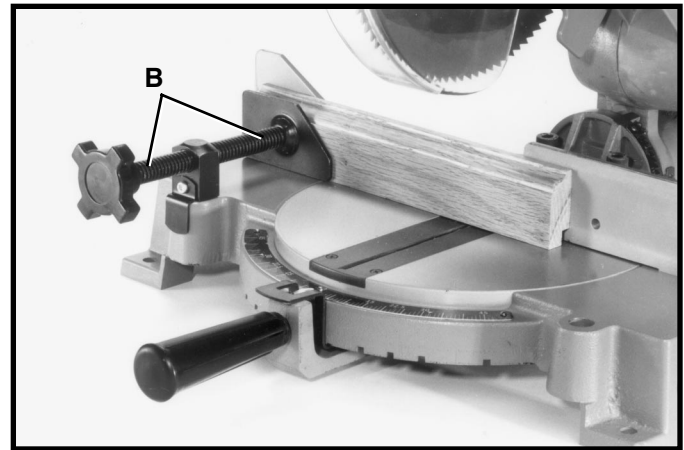

Fig. 34
9. Fig. 34, illustrates the work clamp (B) being used to firmly hold the workpiece against the fence.